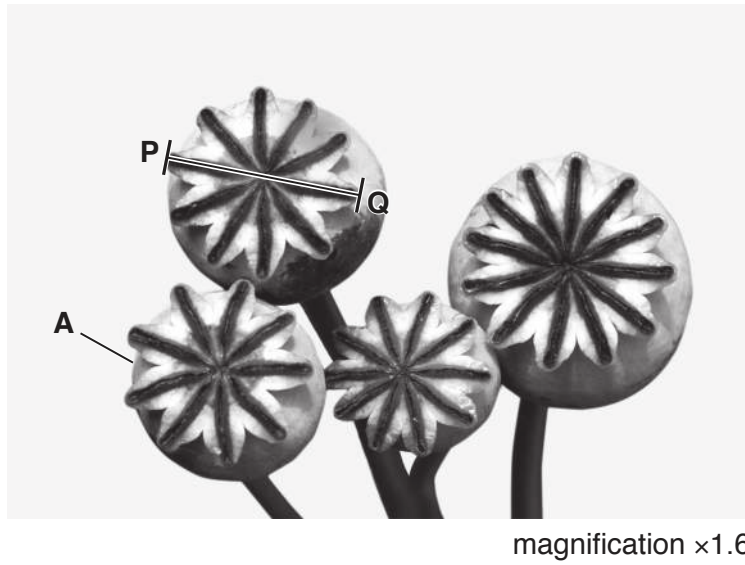

Fig. 2.1
- 2 (a) Fig. 2.1 is a photograph showing four seed heads from a poppy plant.
- (ii) Measure the length of line **PQ** on Fig. 2.1. Include the unit.